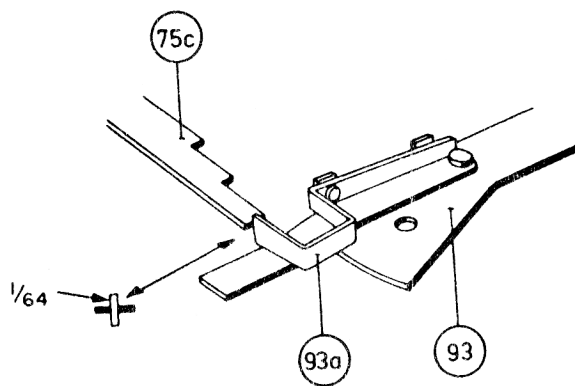

Fig.16
The indexing mechanism consists of the record scanner 75 d connected to the large step bracket 75 c by means of spring 75 a, the small step bracket 75 b and the tumbler fitted to plate 93 (see Figures 16, 17, 18).
2. The tumbler 93 a must stop approximately in the middle of the steps of step bracket 75 c (see Figure 16).
5. In its highest position, the lock of tumbler 93 a must project  $1/64''$  to  $1/32''$  from the step bracket. (See Figure 16).